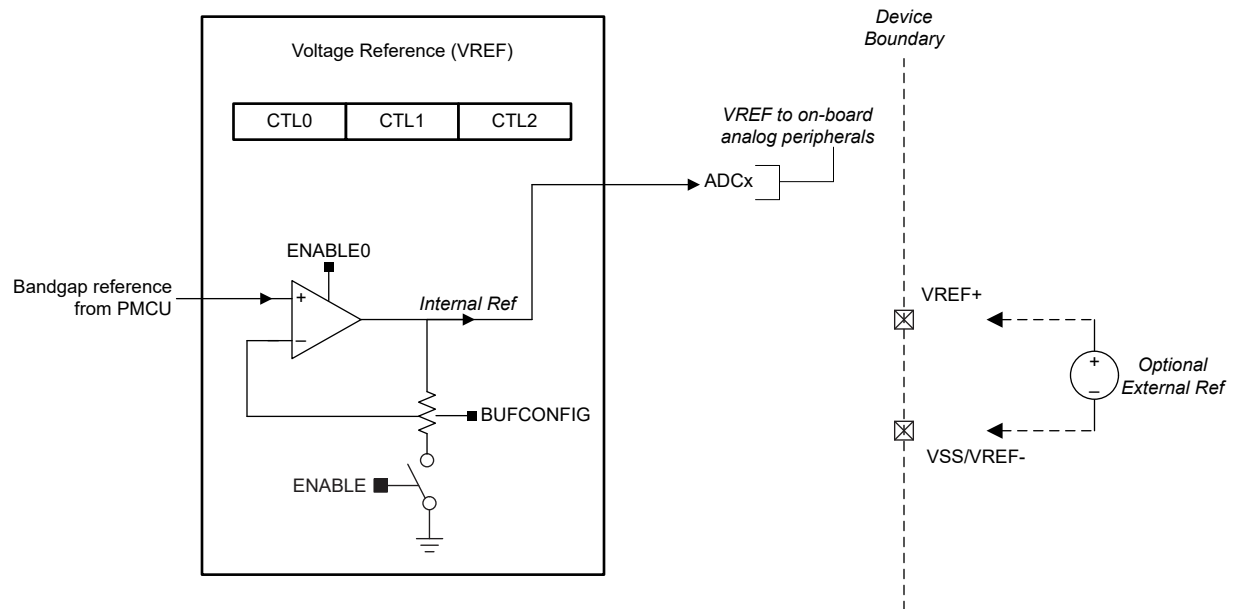

Figure 8-1. VREF module
- No decoupling capacitor is required for proper operation. See Figure 8-1 for more details